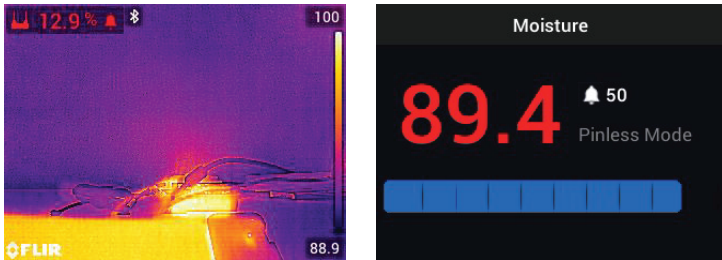

Figure 7.15 Moisture Alarm display examples
- When the measurement exceeds the threshold, the text for the measurement reading will appear red in color. Note that in the Moisture-only mode, the larger digits appear in red when the alarm limit is exceeded. See **Figure 7-15** below.